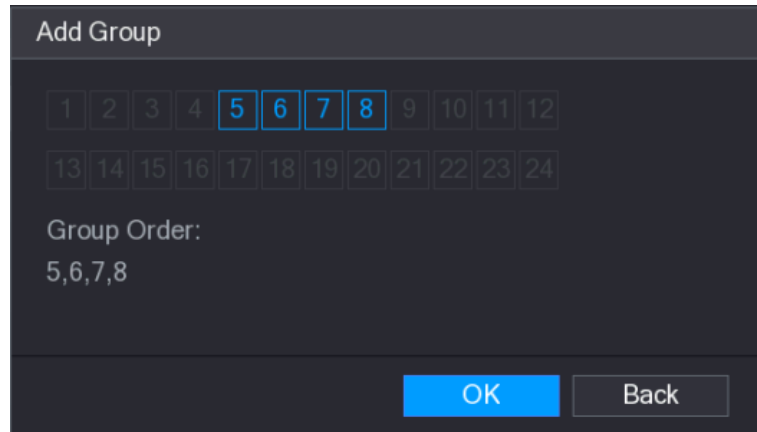

Figure 5-48
**Step 2** Select the channels that you want to group for tour. See Figure 5-48.